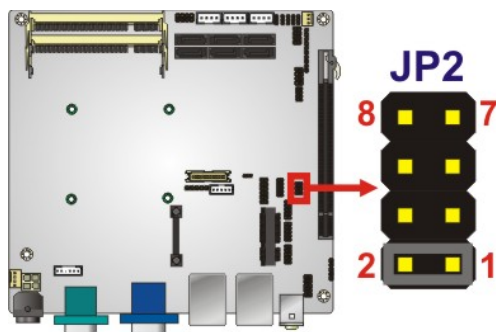

Figure 4-8: COM 4 Function Select Jumper Location
- Jumper Location:** See **Figure 4-8**